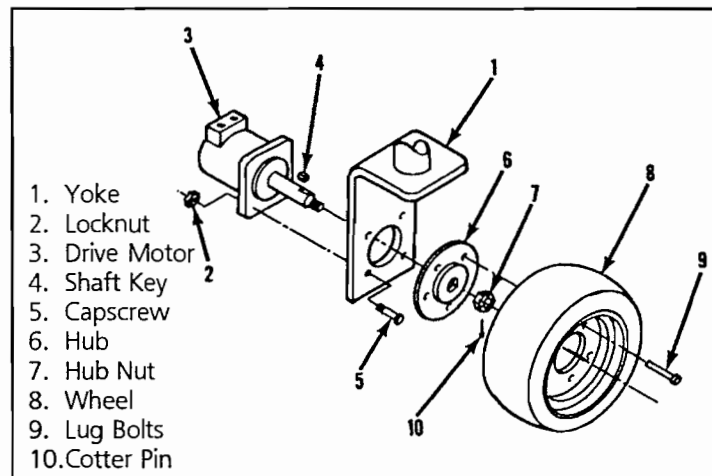

Figure 4-10: Drive Motor Installation
4.9 Hydraulic Drive Motors and Hubs (Figure 4-10)
1. Referring to Figure 4-10, position the drive motor on the yoke and secure with capscrews and locknuts.